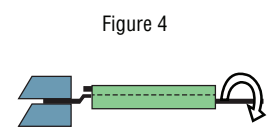

Figure 4
- d) Do not apply more than 0.4 cN-m twist torque to the breaker terminals (refer to Figure 4)